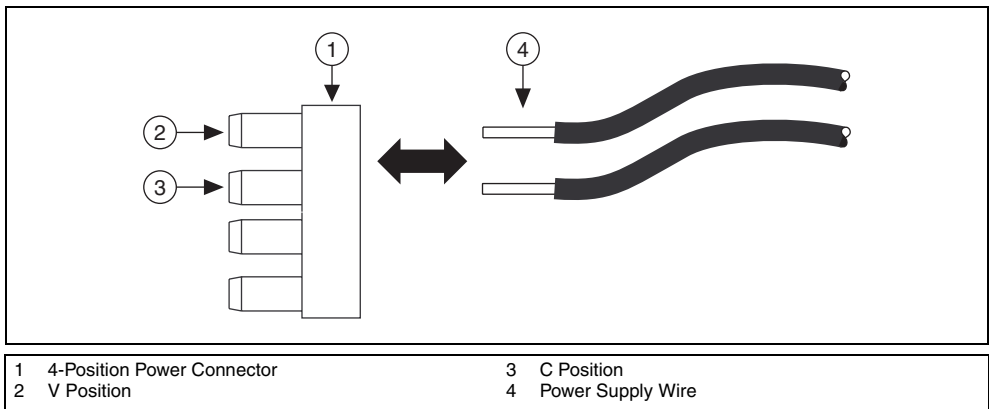

Figure 3. Removing the 4-Position Power Connector from the Power Supply
- a. Disconnect the 4-position power connector from the power supply, as shown in Figure 3.